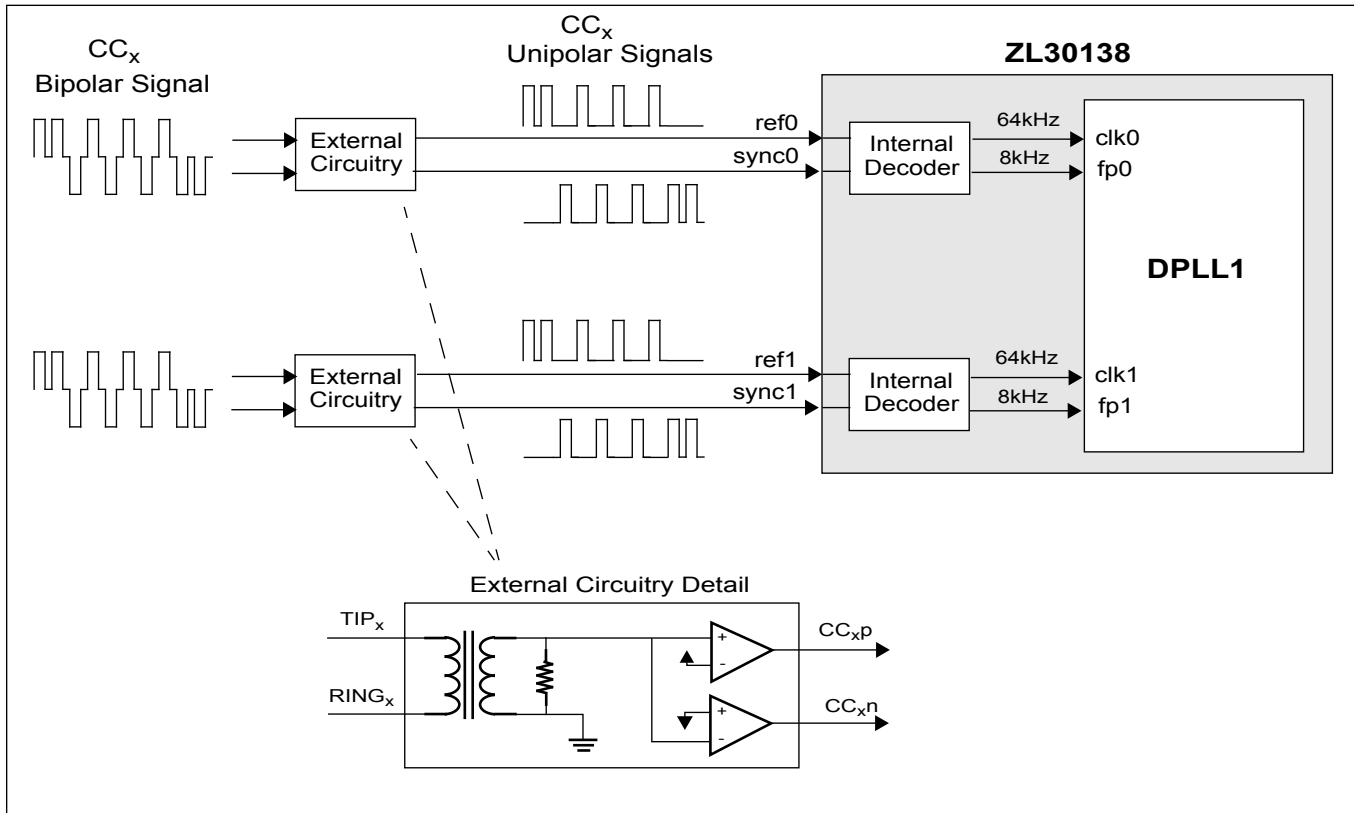

Figure 9 - External Circuit for Converting a Bipolar CC Signal into Two Unipolar Signals
The ZL30138 provides internal decoding logic necessary for extracting the 64 kHz reference clock and the 8 kHz frame pulse from the CC signal. It is capable of receiving two CC references using existing ref/sync input pins. One CC signal is received on the ref0/sync0 pins, and the other on the ref1/sync1 pins. Before interfacing the bipolar CC signal to the ref/sync pair, it must be separated into two unipolar signals using a simple external circuit as shown in Figure 9.